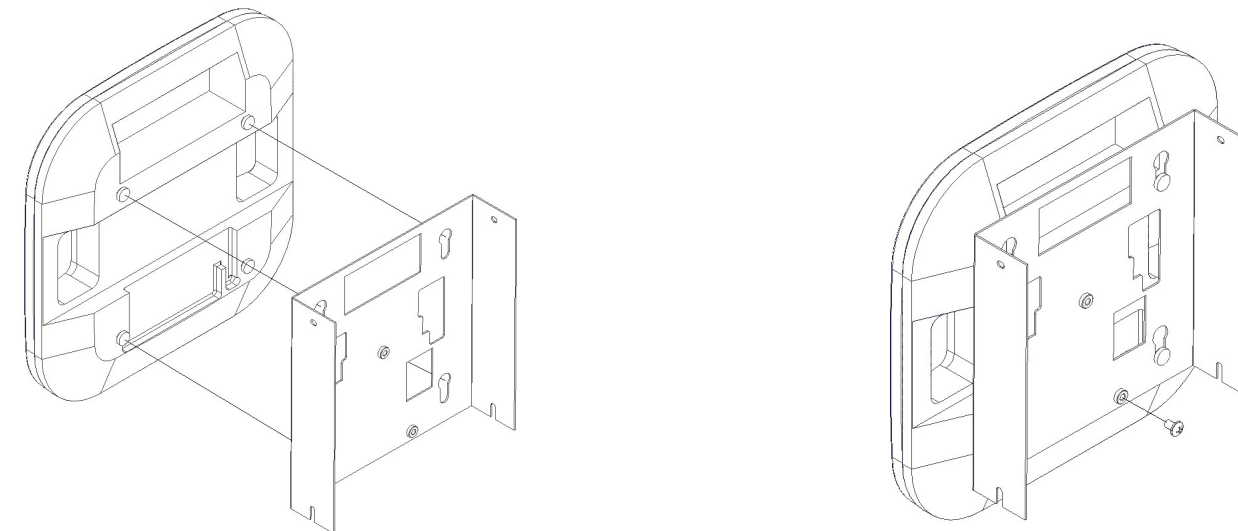

Figure 4 - Cisco 2600, 2700, 3600, 3700 Installation
**(CISCO 2600, 2700, 3600, 3700 INSTALLATIONS)** To install a Cisco access point, place the access point's mounting feet into the keyhole slots, with the AP's Ethernet ports toward the large rectangular opening, and slide the access point down. Secure in place using a #8-32 screw. Install the screw into the nut located near the edge (Ref. Figure 4).